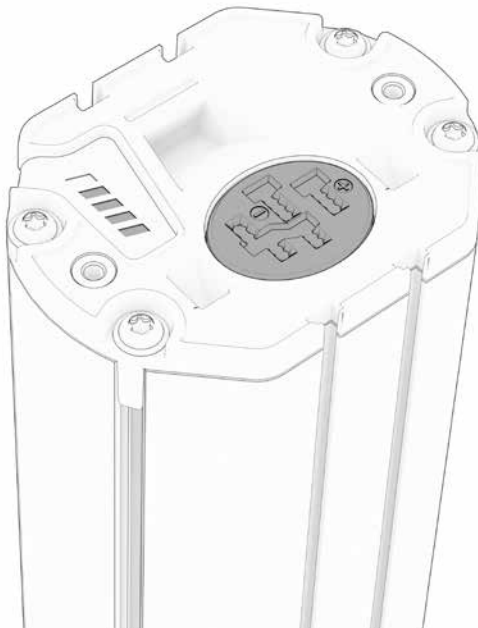

Fig. 22
1. First connect the plug of the charging cable into the charging port on the rechargeable battery (Fig. 22) and plug the charger into a power outlet.